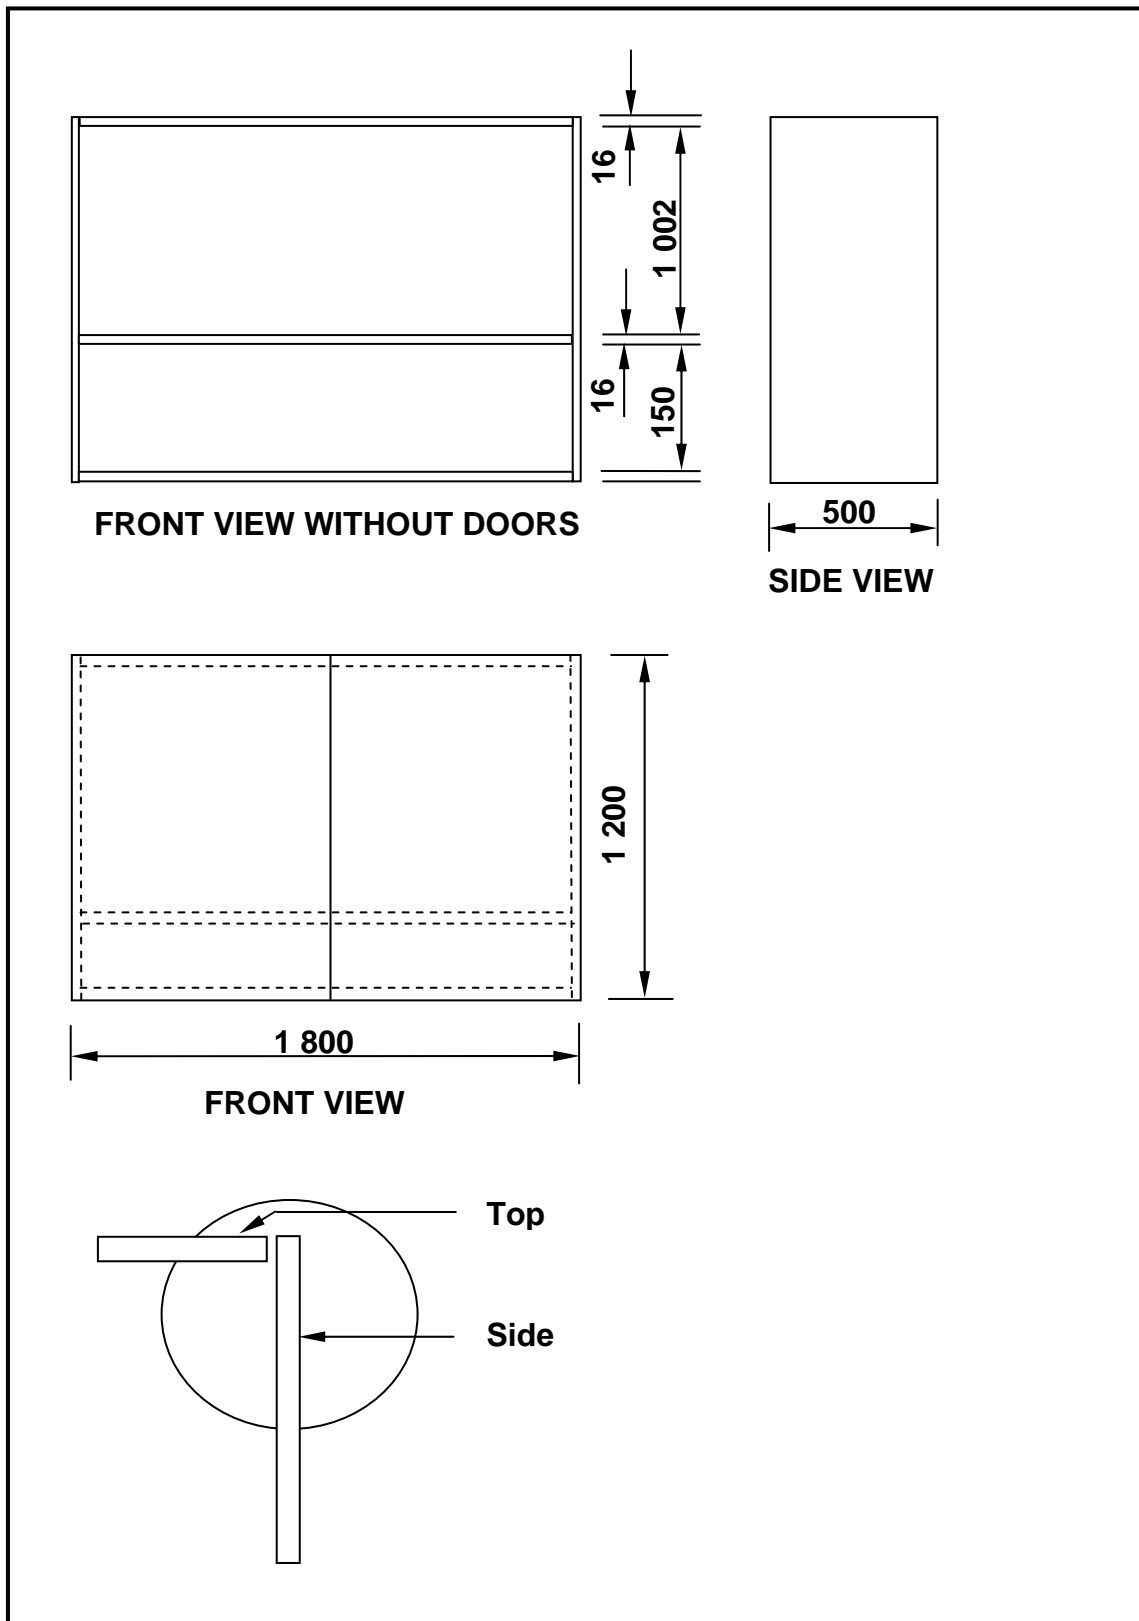

FIGURE 4.3
4.3 FIGURE 4.3 shows a drawing of a wall-mounted cabinet made out of 16 mm thick melamine chipboard, with a 3 mm thick masonite (hardboard) back. Butt joints are used in the construction of the cabinet.